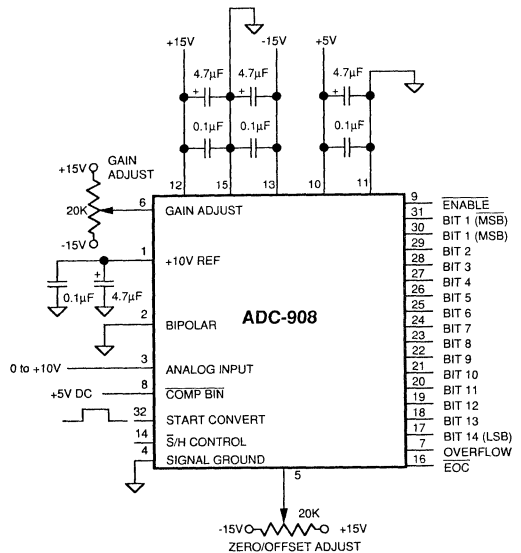

Figure 3. Typical ADC-908 Connection Diagram
1. Connect the converter per Figure 3, and Table 1 for the appropriate full-scale range (FSR). Apply a pulse of 200 nano-seconds minimum to the START CONVERT input (pin 31) at a rate of 250 KHz. This rate is chosen to reduce flicker if LED's are used on the outputs for calibration purposes.